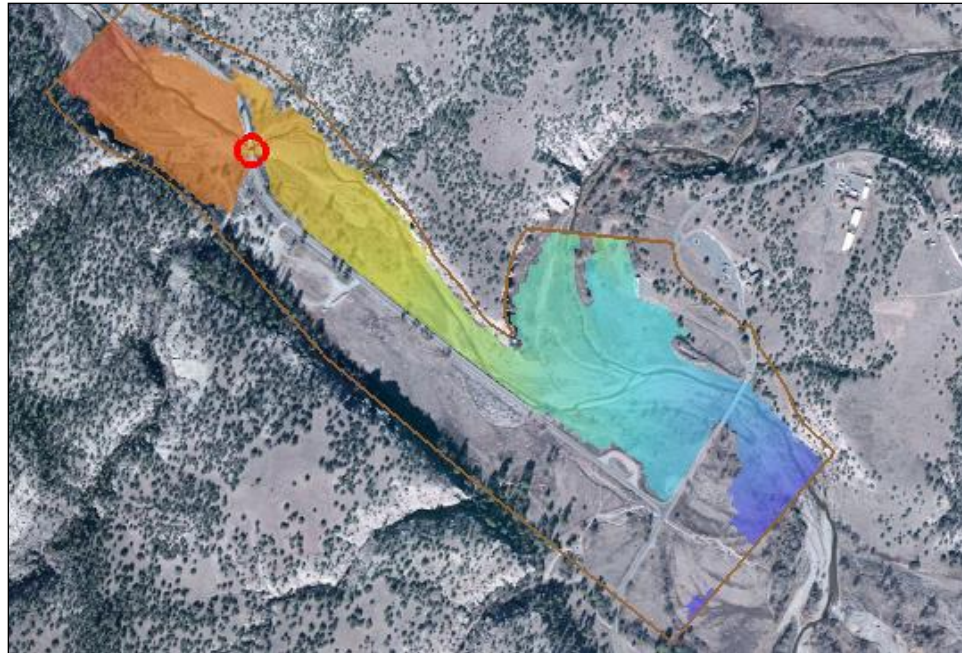

Figure 2 Bridge pressure flow location
The pressure flow structure will be created at the bridge (displayed in Figure 2). Pressure flow structures are defined by creating an arc at the upstream side of the bridge deck and an arc at the downstream side of the bridge deck representing the upstream and downstream extents of the bridge. The arc type for these arcs is defined as “Pressure” and attributes are assigned to them such as low chord elevations, a Manning’s n value, and overtopping parameters.
6. Use the **Zoom** tool to zoom into the bridge location (Figure 2).